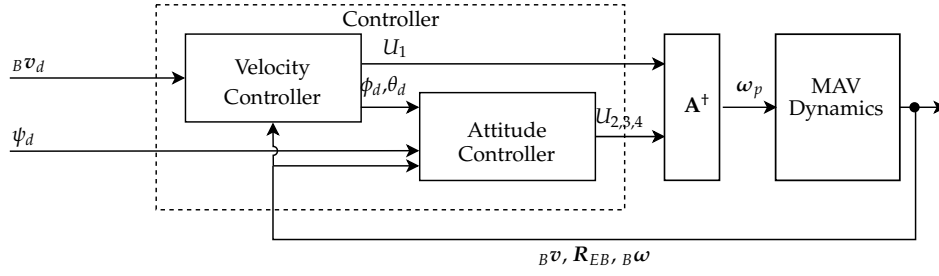

Figure 2: Control structure.
In this exercise, attitude and velocity controllers will be designed and evaluated using MATLAB and SIMULINK. The control structure is depicted in Figure 2. The outer loop controller (velocity controller) generates commands to the inner loop controller (attitude controller). The commands (total thrust U_1 and moments U_2, \dots, U_4) are converted into rotor speed $\omega_{p,i}$ by inverting the expression in Equation (4). Note that matrix \mathbf{A} has dimensionality 4×6 . Therefore, the pseudo-inverse is used to solve Equation (4) for $\omega_{p,1\dots 6}$. The pseudo-inverse is given by $\mathbf{A}^+ = \mathbf{A}^T (\mathbf{A}\mathbf{A}^T)^{-1}$.